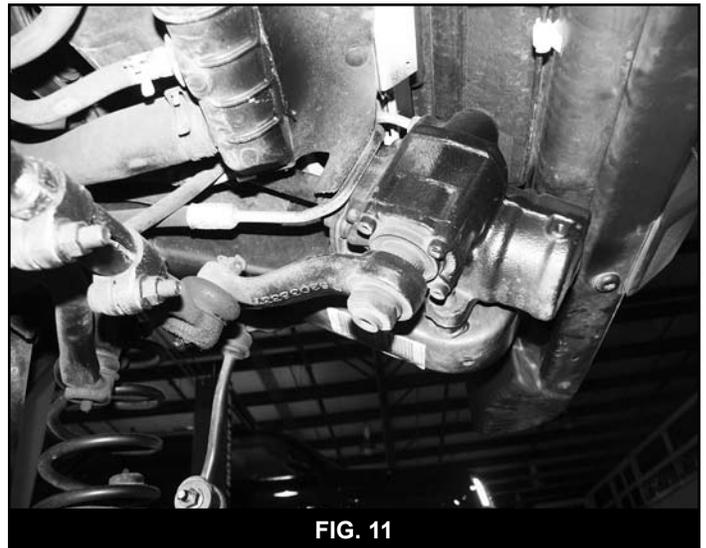

FIG. 11
28. Disconnect the steering drag link from the pitman arm (Fig 11). Remove the cotter pin and nut. Use a pickle fork to dislodge the drag link from the pitman arm. Retain castellated mounting nut.
29. Remove the nut and washer mounting the pitman arm to the steering box (Fig 11). Remove the pitman arm from the steering box using an appropriate pitman arm puller. Note the indexing of the pitman arm before removal. Retain mounting nut and washer.